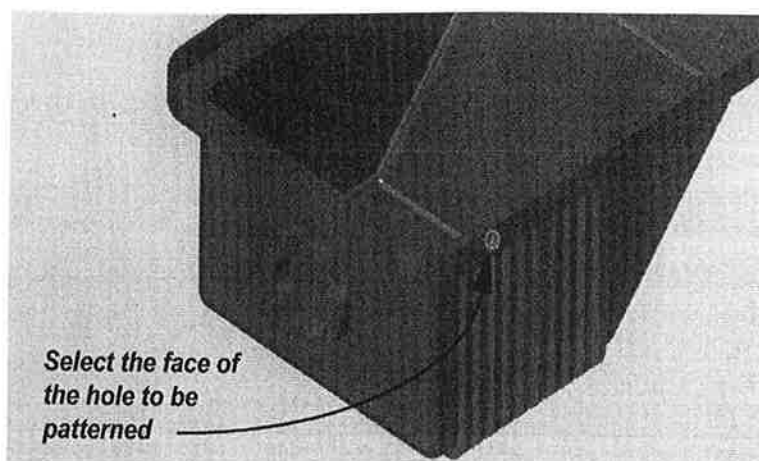

Figure 13–23
3. Select the cylindrical face of the hole as the face to be patterned, as shown in Figure 13–23. Once the face is selected, the *Objects* field in the palette indicates that 1 item has been selected and the face highlights in blue.